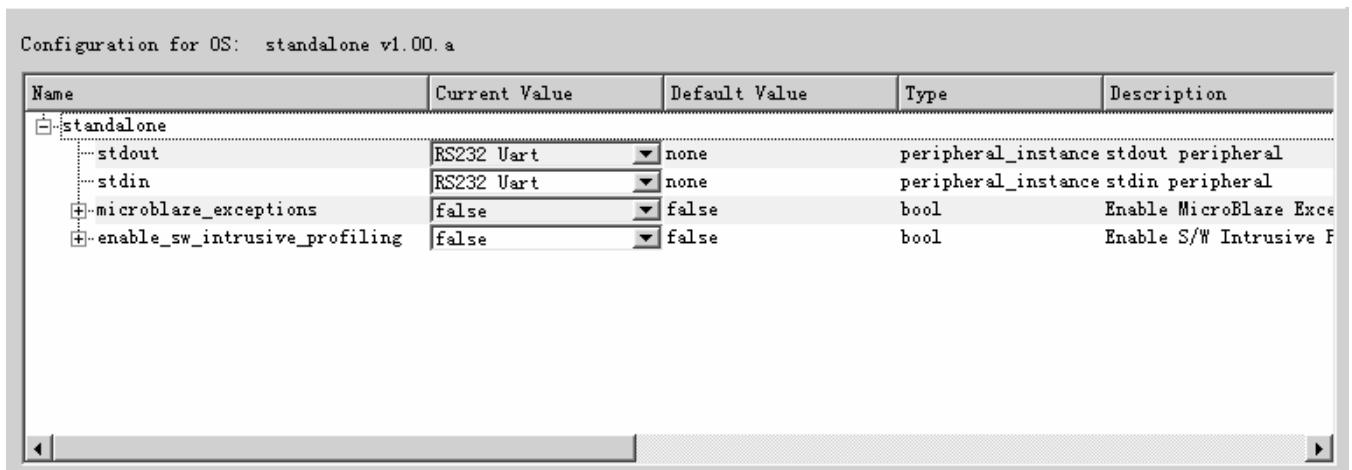

Figure 26: OS and Libraries view
- Select the OS and Libraries view as shown in Figure 26. This view allows the user to configure OS and library parameters. No changes are required.